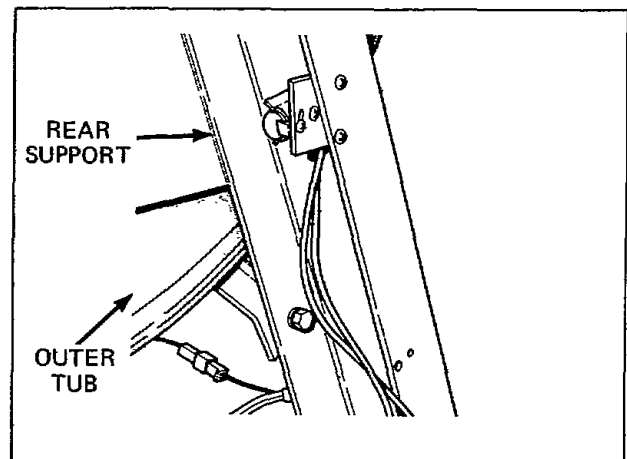

Figure 38
- m. Remove two screws, nuts, washers, and lockwashers holding outer tub to rear support, *Figure 38*.